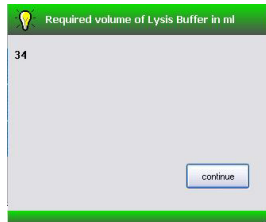

Figure 11. Requested volume of Lysis Buffer - dialog window
21. Check for the necessary volume of Lysis Buffer (Fig. 11).